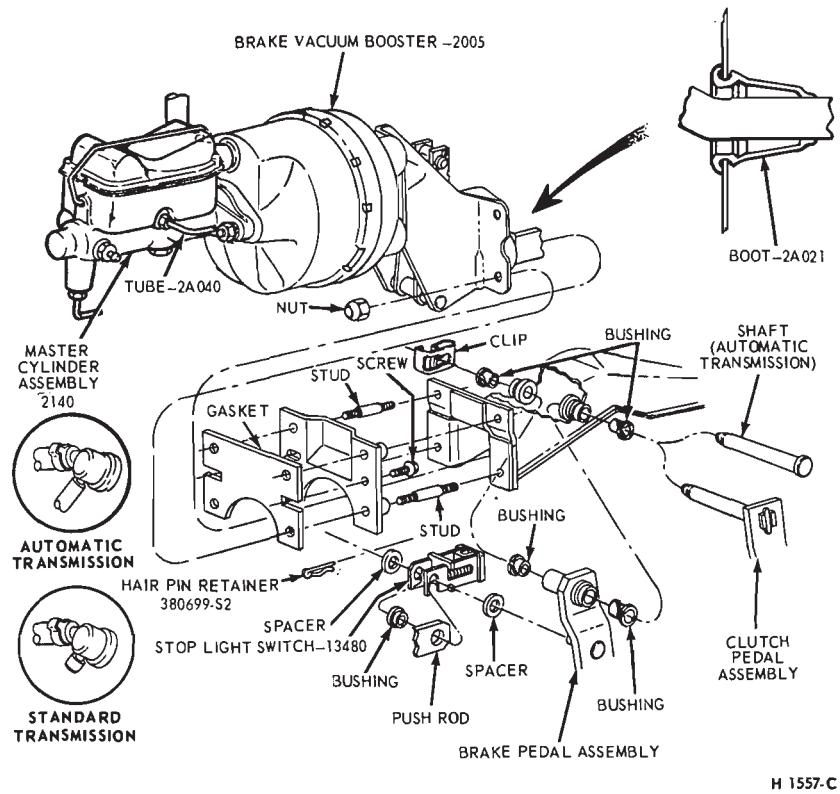

FIG. 14—Master Cylinder Installation—Power Brake—Fairlane, Montego and Falcon
1. On Fairlane, Montego and Falcon models, install the push rod link boot in the hole in the dash panel as shown in Fig. 14. Install the four spacers on the mounting studs.